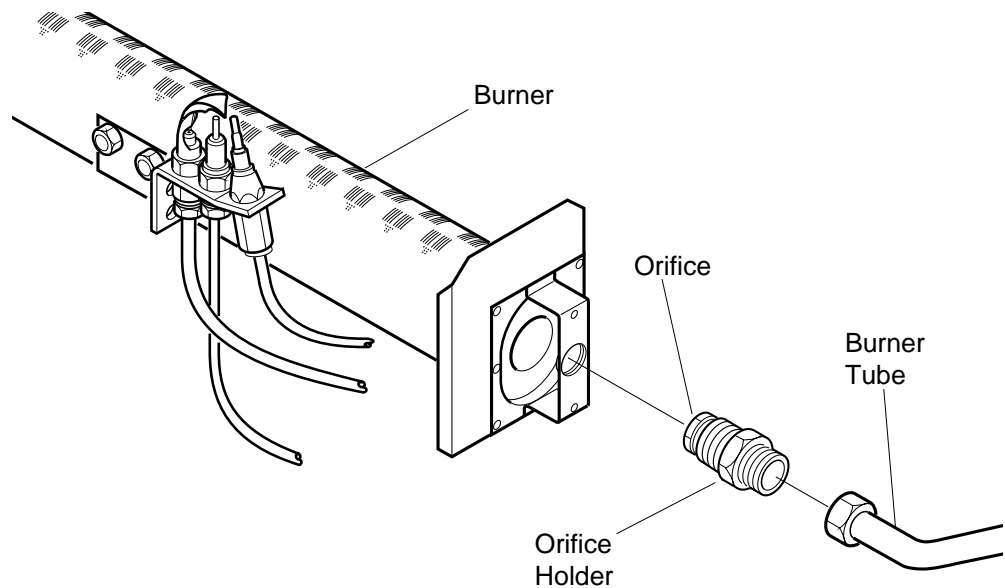

Figure 20 - Orifice Location (35,000 BTU/Hr Burner Shown)
3. Disconnect burner tube from orifice holder (see Figure 20).
4. Remove orifice holder from burner (see Figure 20).